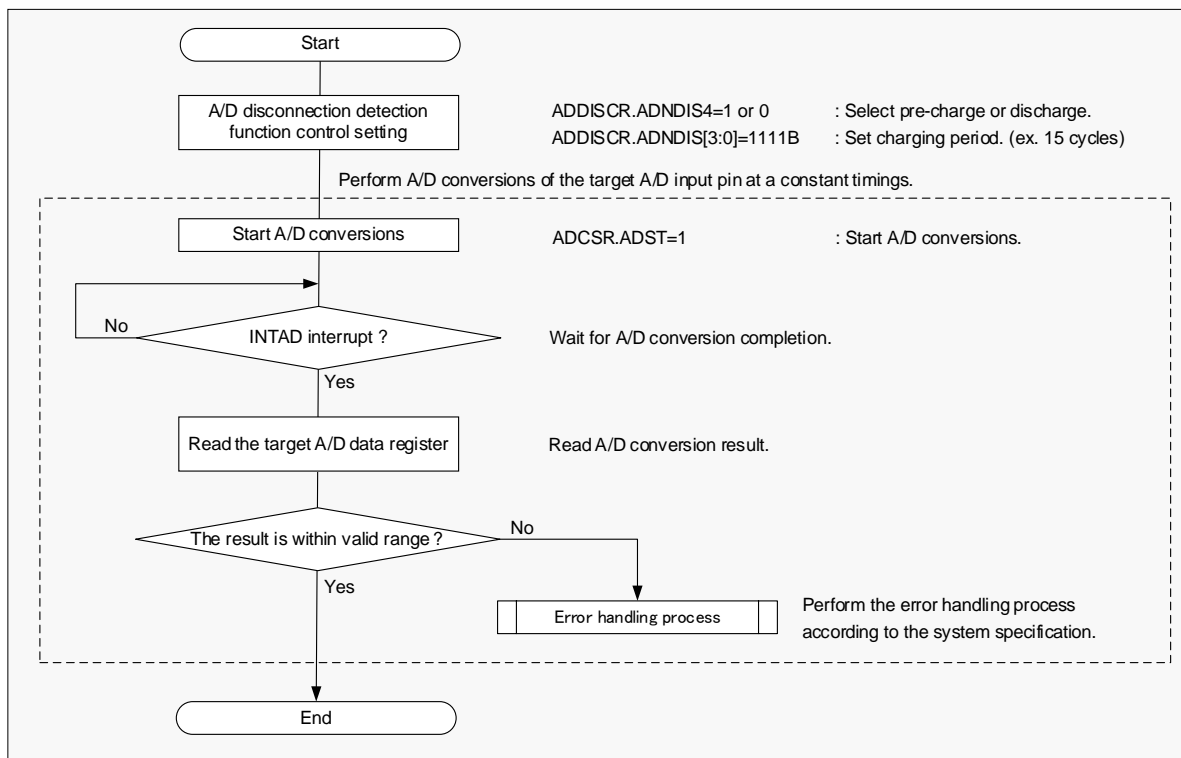

Figure 13-3 Flow Chart of A/D Test Function (Disconnection detection function)
Figure 13-3 is the flow chart of the A/D test function (Disconnection detection function).
P.55	Revised "Figure 13-3 Flow Chart of A/D Test Function (Disconnection detection function)".